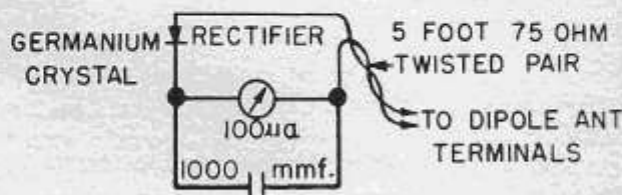

Fig. 19
2. Field Strength Meter (Fig. 19). This meter may consist of a D.C. 100 microampere (full scale) meter, shunted by a 1000 mmf. mica by-pass condenser; a crystal rectifier connected in series with the meter and a five foot, 75 ohm twisted, pair of leads.